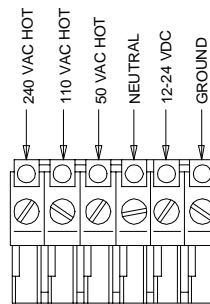

Figure 2.7: Input Power Connections
1. Refer to Figure 2.7: Input Power Connections to determine the appropriate power input block tie in points.
4. Connect incoming power to the 6 point terminal block as shown in Figure 2.7: Input Power Connections per customer requirement.